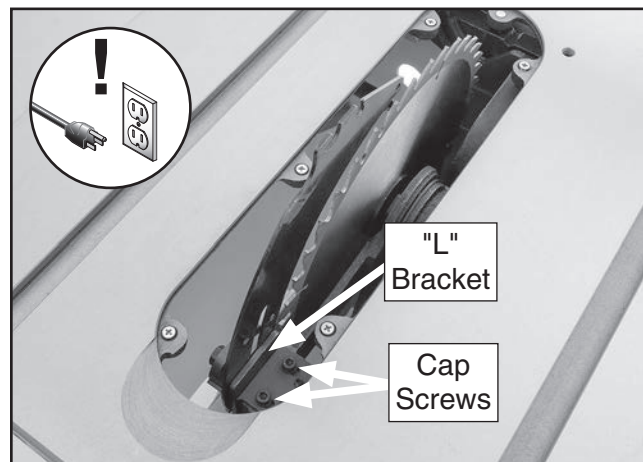

Figure 117. Cap screws for adjusting spreader/ripping knife position.
The spreader/ripping knife mounting position can be aligned with the blade using the cap screws on the spreader/ripping knife "L" bracket (see **Figure 117**).
3. Loosen two cap screws on "L" bracket (see **Figure 117**), then slide spreader/ripping knife as needed to move it into alignment with blade.